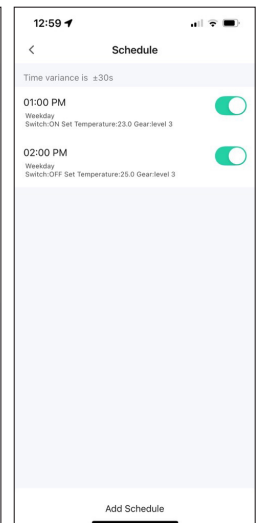

Fig. 7
**NOTE:** After saving, all your scheduled timers will appear in the schedule list (see Fig. 7). To activate or deactivate a schedule, toggle it on or off. To delete a schedule, swipe it to the left.